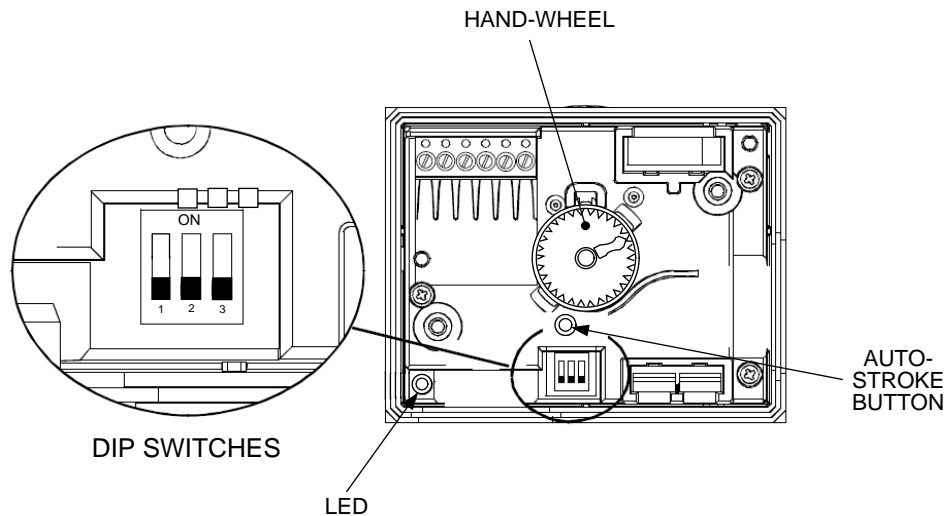

Figure 4-2. Control Valve with Electronics Module Cover Removed
2. Remove the Electronics Module cover from the Valve to access the internal components shown in Figure 4-2
3. Ensure that all three (3) DIP switches shown in Figure 4-2 are in the OFF (Down) position as shown.
4. Set the ECS/SP Control Box POWER switch to the ON position to apply 24 VAC power to the Control Valve Actuator (pins 1 (G0) and 2 (G)). Ensure the Valve is in the AUTO position, the LED indicator will light green continuously indicating that Valve operation is normal (no faults).
5. Using a pin or paper clip, depress the auto-stroke button in the opening of the terminal housing (Figure 4-2). This will initiate calibration of the Control Valve.
6. During actuator calibration, the LED indicator (Figure 4-2) will flash green for approximately 10 seconds. The Control Valve will be briefly closed and fully opened.